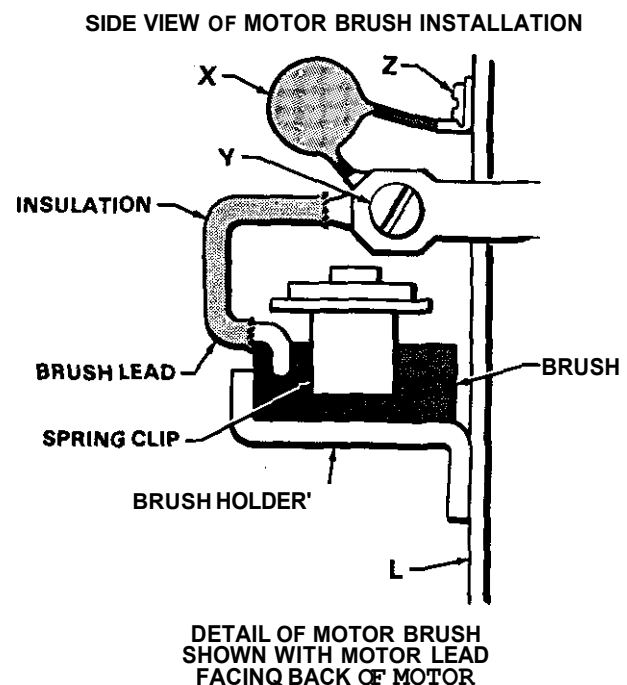

Fig 32
5. Push down slightly on the spring clip and pull the clip out of the brush holder. See Fig 32.